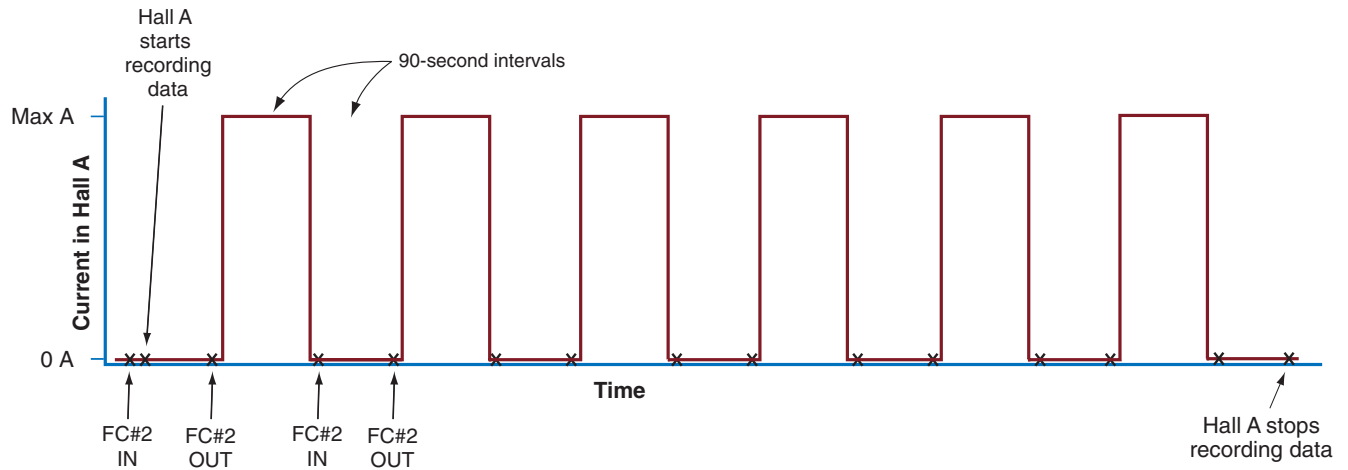

Figure 2-1: Graphical Depiction of Data-Logging Process
This procedure is to be used by MCC operators to cross calibrate the Hall A Unser monitor with the BCM at 0L02 and is generally performed immediately following the Hall A BCM Linearity Procedure. At the same time, it also calibrates the Hall A BCMs. This procedure is invasive; i.e., it will interrupt beam delivery to the other halls. The current calibration process consists of six 90-second intervals of maximum-current CW beam to Hall A (the level is determined the Program Deputy), separated by 90-second intervals of no beam (refer to Figure 2-1 on page 3 for a current vs. time plot of the procedure). This procedure is not intended to be performed with less than 30 μA of CW beam. The data taken will be analyzed off-line by Hall A personnel. The setup steps in Section 1.0 are non-invasive and can be performed before turning off beam to the halls.
8. Insert FC#2 for 90 seconds and then return to Step 7, above (repeat Steps 7–8 five more times and then go to Step 9, below). Refer to Figure 2-1, below, for a graphical depiction of the data-logging process.